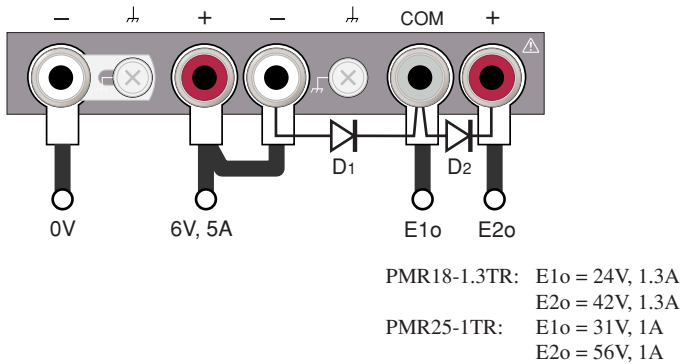
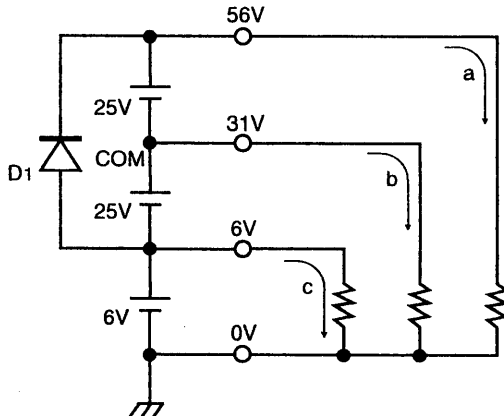

Fig. 3-12 Example 2 of series operation with the PMR-TR type
Fig. 3-13 Circuit diagram of Example 2 of series operation (Fig. 3-12)
Fig. 3-11 illustrates series operation with the PMR18-1.3TR. Fig. 3-12 shows operation with the +6 V output connected in series.
Fig. 3-12 provides an example of grounding the negative (-) terminal using a 6 V output. To ground the positive (+) terminal, connect the chassis ground terminal to the 6 V positive (+) terminal using the accompanying short bar (S).
- In the connection shown in Fig. 3-12, remove the short bar from the  $\pm 18$  V ( $\pm 25$  V) output.
- In the connection shown in Fig. 3-12, if E1o or E2o is short-circuited unintentionally to the 6 V negative (-) terminal, a current of 5 A will be applied to the  $\pm 18$  V ( $\pm 25$  V) output, resulting in damage to the protected diode in the power supply. Be sure to install D1 and D2 (with a rated value of at least 5 A), as shown in Fig. 3-12.
For example, when the PMR25-1TR is connected as shown in Fig. 3-12, each output can send the following currents (see, Fig. 3-13):